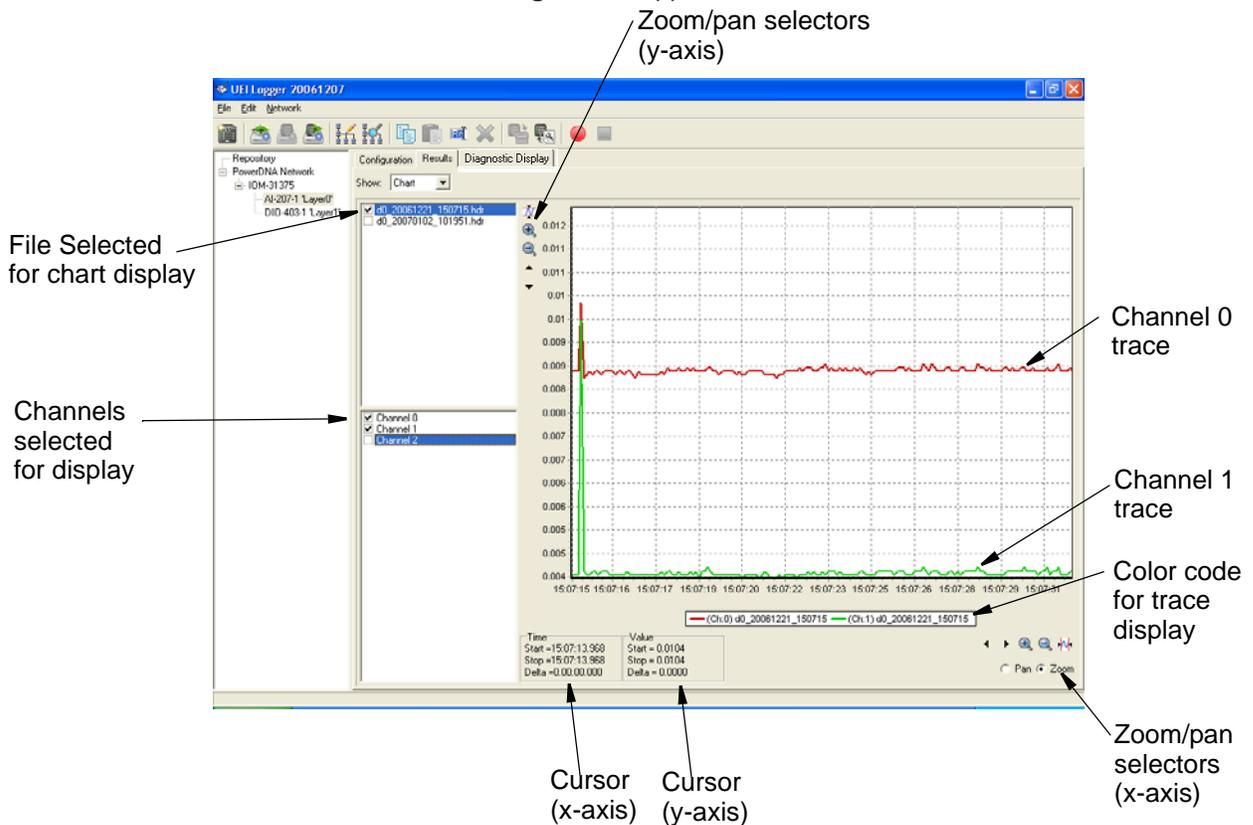

Figure 3-2 Displaying Charts of Analog Scan Results
- STEP 3:** In the Results window, pull down the *Show* menu and select *Chart*. A screen similar to that in **Figure 3-2** appears.